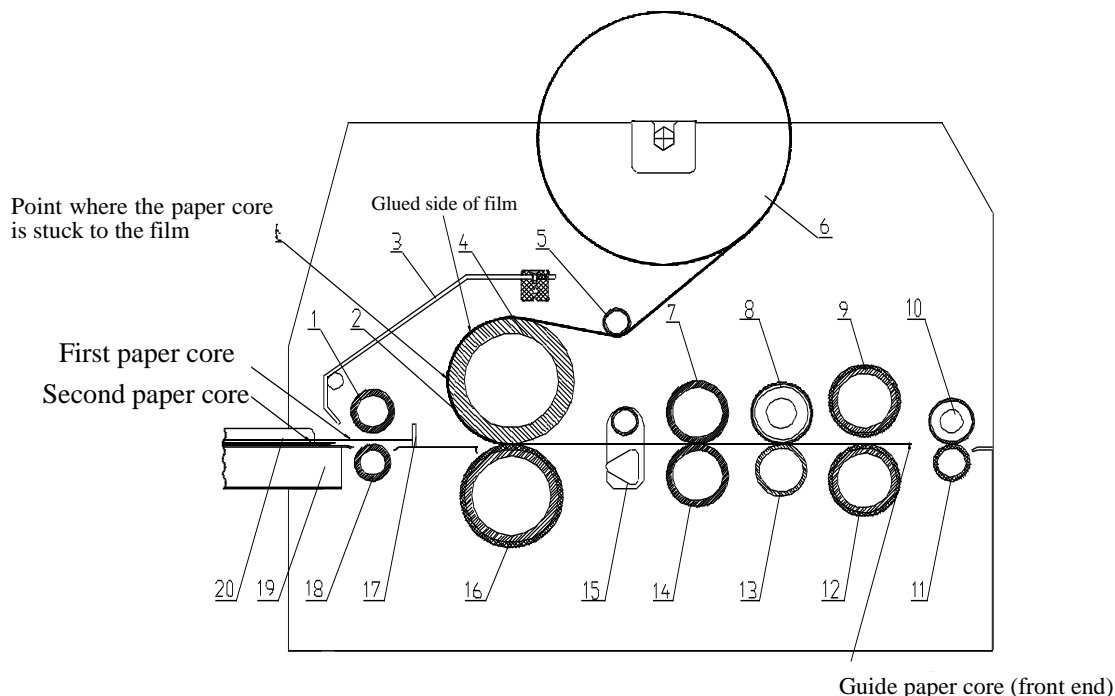

Figure 2
6. Check the operating indicator. If it is in normal lighting, this indicates that the temperature of the steel roll has come to the setting. Now, pass the film through. (See Fig. 2 for the operation of passing through the film.)
12. Feed the first paper core along the paper backup board and make sure that its front end is against the paper stop. Set the Start/Run/Stop Key to Start and now, the front paper feed roll lowers and feeds the first paper core, and the machine starts for lamination. When the paper feed roll rises, place the second paper core under the first one, and feed it along the paper backup board till it is against the paper stop. Repeating the above procedures enables continuous paper feeding. (As shown in Fig. 2)